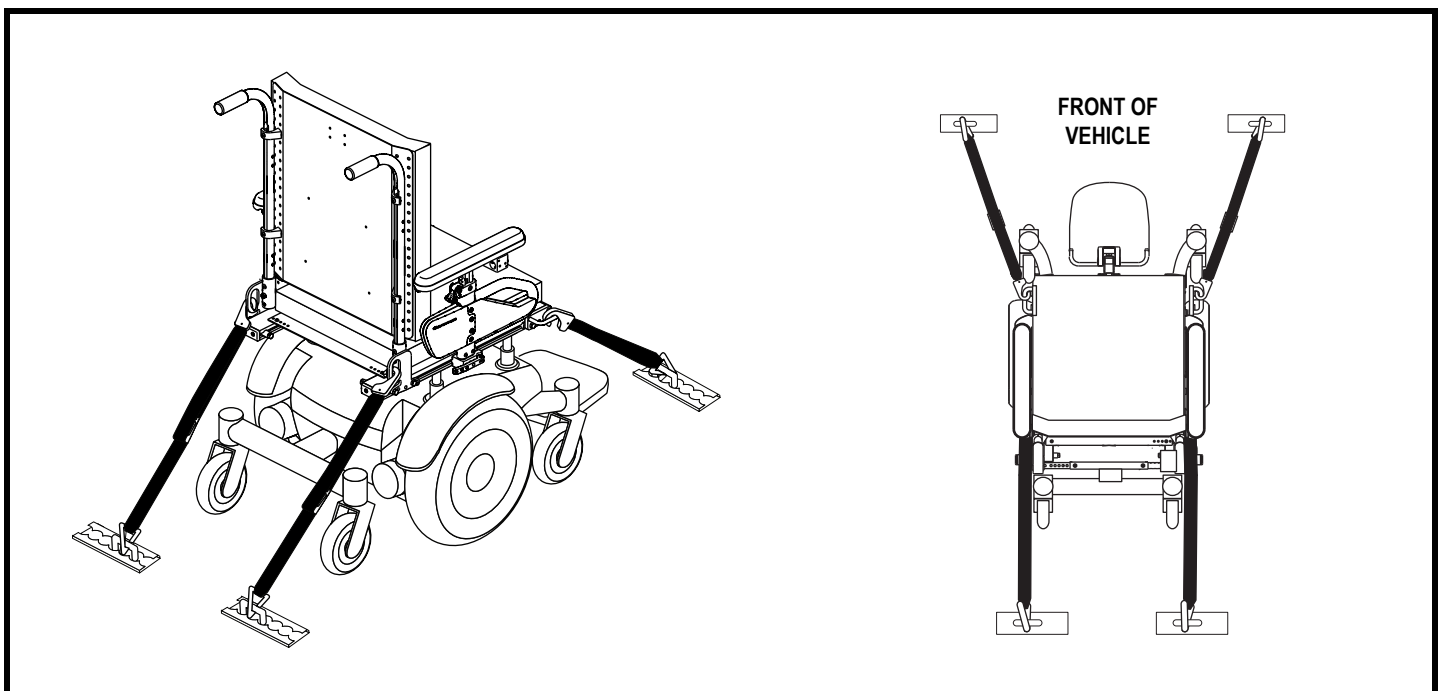

Figure 10. Unoccupied Transit System Securement Points
- Position the anchor points for the rear tie-down straps directly behind the rear securement points on the power chair. The front tie-down straps should be anchored to floor points that are spaced wider than the power chair to provide increased stability. See figure 10.